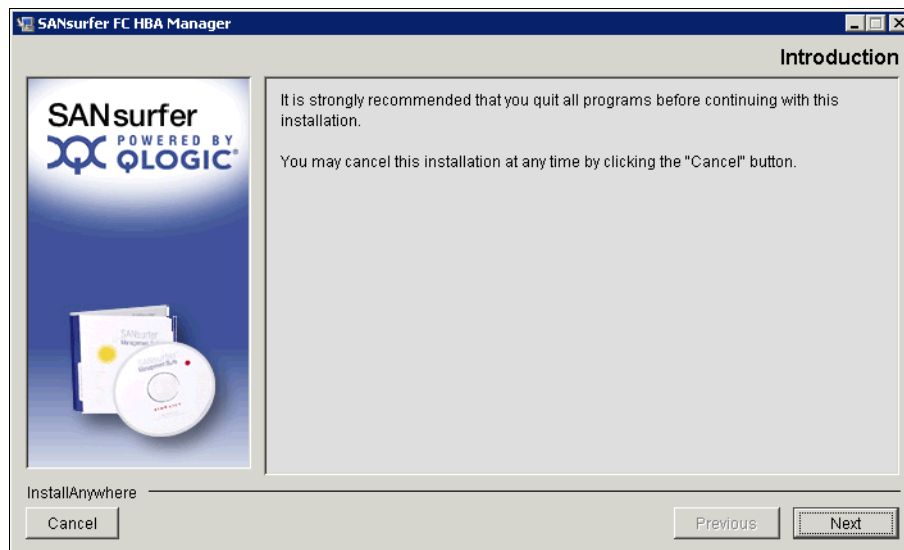

Figure 17-3 SANsurfer installation wizard
1. Find the downloaded file (`standalone_sansurfer5.0.1b75_windows_install.exe`) and double-click it to start the installation wizard, as shown in Figure 17-3.